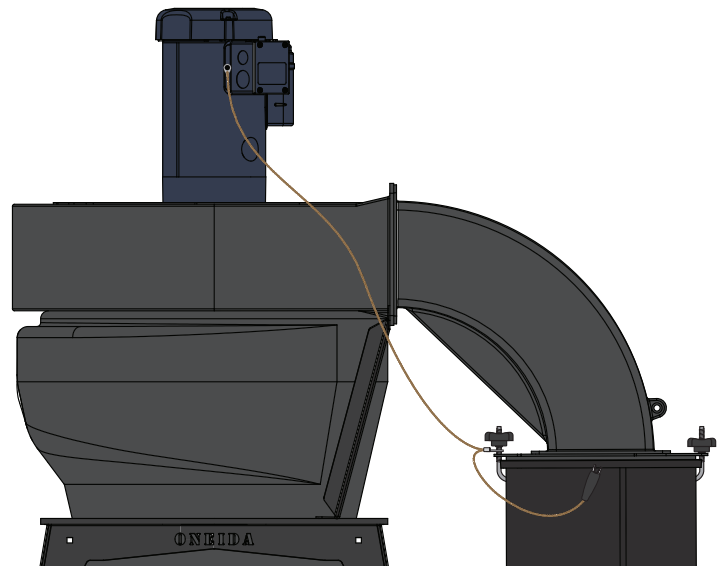

FIG. 15
To ground the filter, attach the ring terminal on the braided ground wire from the Motor Assembly (A) to a bolt on the filter plate, under the nut, then attach the alligator clip to the filter's cage [FIG. 15].